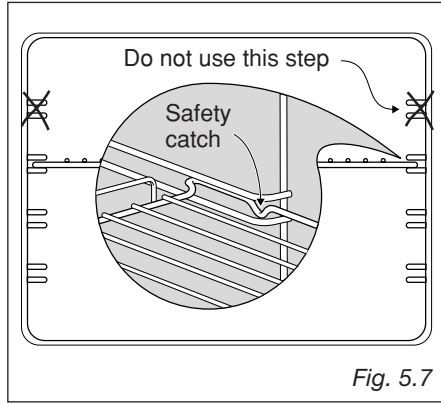

Fig. 5.7
- Slide in, on the guides, the shelves (fig. 5.7). Do not use the first step from the top. The rack must be fitted so that the safety catch, which stops it sliding out, faces the inside of the oven.